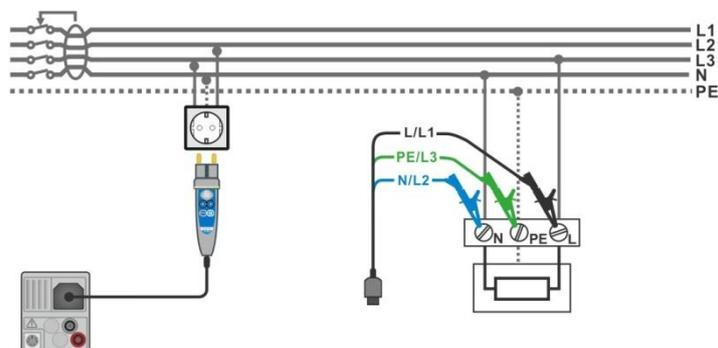

Figure 7.23: Connecting the Plug commander and the 3-wire test lead
- › Connect test leads or Plug commander to the object under test, see **Figure 7.23**.
<ul style="list-style-type: none"> › Enter the RCD Auto function. › Set test parameters / limits. › Connect test cable to the instrument. › Connect test leads or Plug commander to the object under test, see Figure 7.23 › Start the measurement. 	Start of test